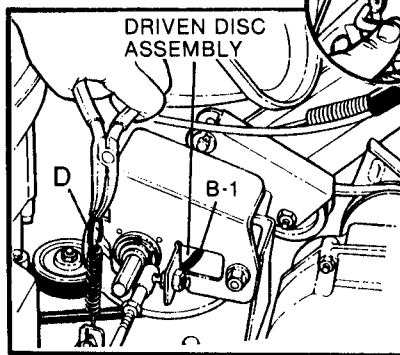

Figure 14: DRIVEN DISC ASSEMBLY
- ☐ Grease on drive disc (C)-causing slippage.
- ☐ Broken or disconnected DRIVE SPRING (D) (also refer to FIG. 14).
- ☐ Driven disc rubber ring (B-1) worn - not contacting drive disc (C) properly.
- ☐ Driven disc (B) out of adjustment.
**DRIVEN DISC REPLACEMENT:** If the driven disc rubber ring (B-1) is found to be badly chunked or worn down to within 1/16" of the metal rim of the driven disc hub (B), it must be replaced. Remove the clip (E) at end of speed control rod, and then turn the transfer rod (F) to a upright (vertical) position and detach from the connector (A) (FIG. 14 & 15). Unhook drive spring (D) (use needle nose pliers) and slide the driven disc assembly off hex-shaft.